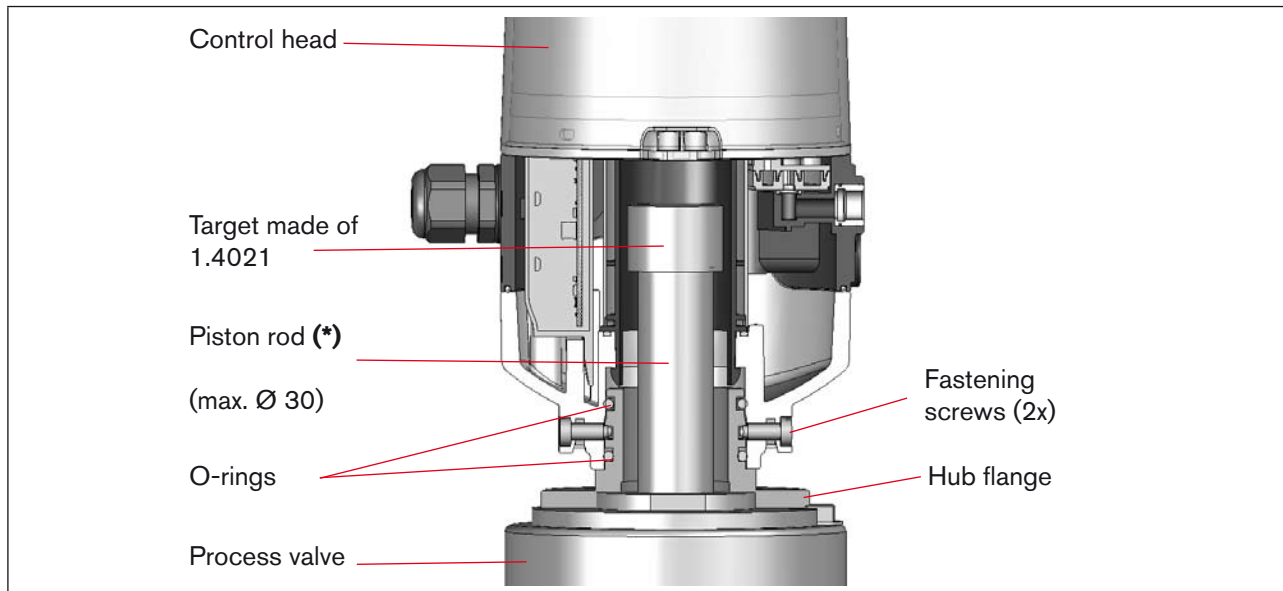

Fig. 7: Dimensional diagram of the control head - process valve adaptation
- Secure control head with the two locking screws (shoulder screws M5) in the middle groove of the hub flange to prevent pulling off from the hub flange – tightening torque: max. 3.2 Nm (see Fig. 7: *Dimensional diagram of the control head - process valve adaptation* and 7.2.3. *Realignment of the Control Head*).